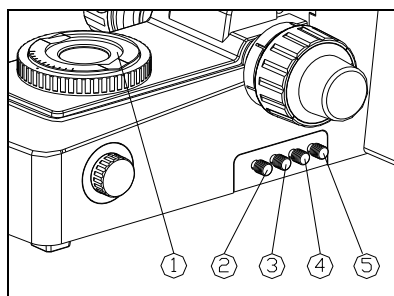

Fig. 25
When an external color filter is used, put a diameter 45mm filter into the groove of the condenser base (1) (See Fig. 25).
When an internal color filter is used, pull the pole (2)—(5) to the outmost, the filter will be moved into the light path. Otherwise, push the pole into the innermost, the filter will be moved out of the light path. (See Fig. 25)